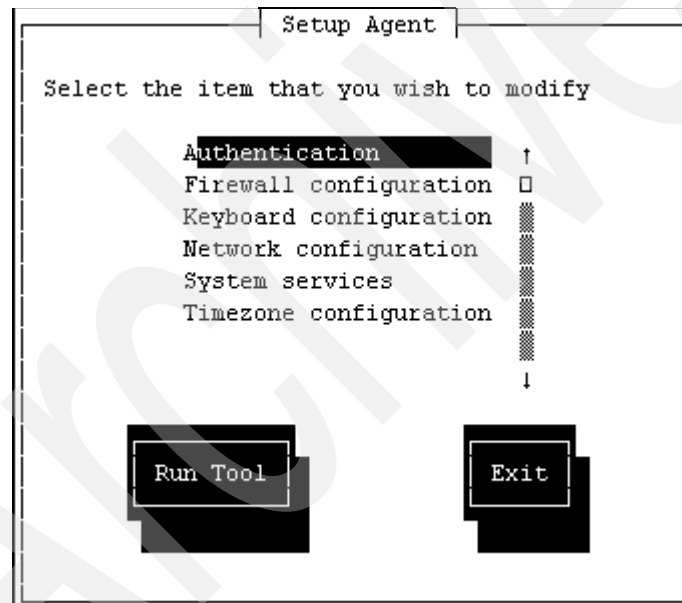

Figure 8-21 Setup Agent panel
23. During boot, the Setup Agent panel opens (Figure 8-21). You may modify any of the fields or select **Exit** to finish booting the LPAR.